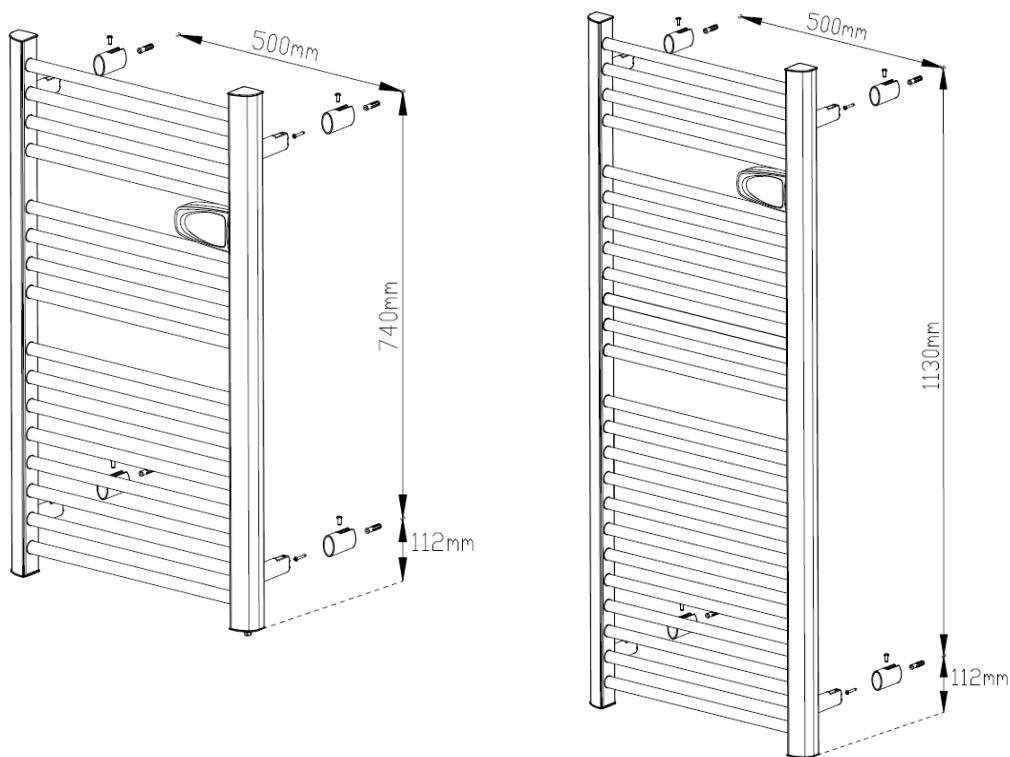

FIG 2
2. Fix the wall brackets to a strong, flat wall using the appropriate screws and wall plugs according to the dimensions shown in the installation diagram. (see Fig 2).
3. Place the appliance in front of the wall brackets and insert it. Then use the screws provided for this purpose to hold the appliance to the brackets attached to the wall. (see Fig 2).